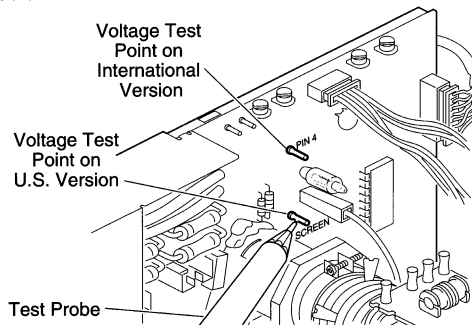

Figure 9 Voltage Test Points
8. FIGURE 9. Touch the high-voltage probe to the voltage test point on the CRT video board labeled SCREEN (U.S. version) or PIN 4 (international version), and read the output at the voltmeter. The reading should be: